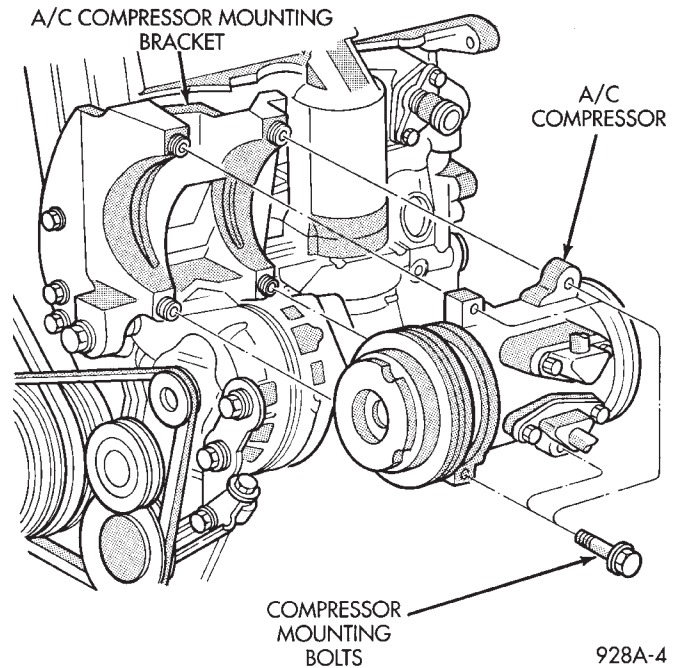

Fig. 2 A/C Compressor Removal and Installation—2.5 L Engine
- (2) If Equipped With air conditioning:
- (b) Remove the four bolts retaining the A/C compressor to the mounting bracket (Fig. 2).